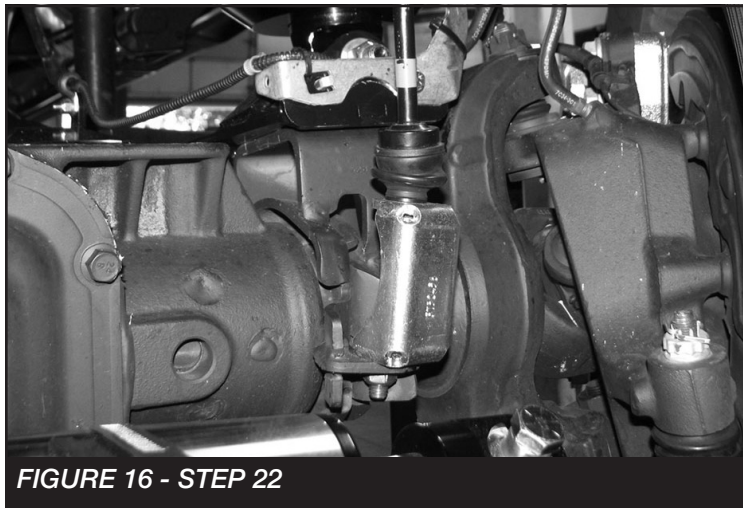

FIGURE 14 - STEP 19
19. Install the resi can to the resi mount using the supplied clamps. **SEE FIGURE 14**